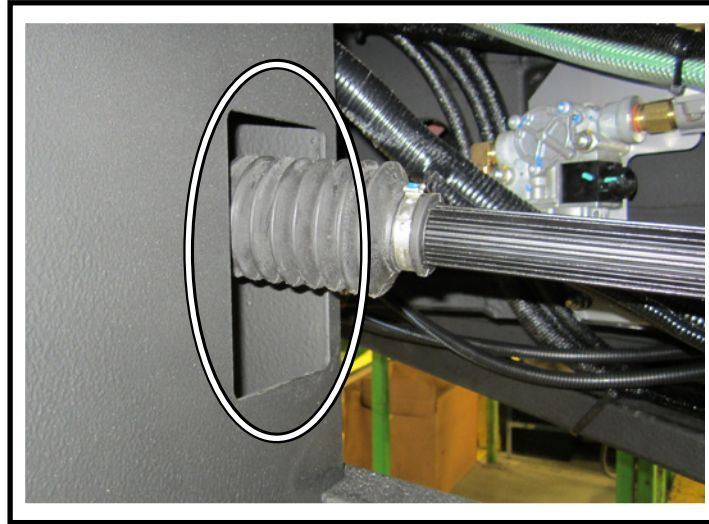

Figure 3 - Modified Reservoir Plate
- 1.7. Figure 3 shows a completed reservoir plate modification with the steering shaft installed. ❖